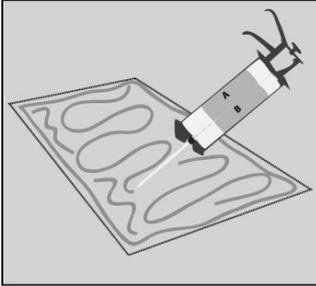
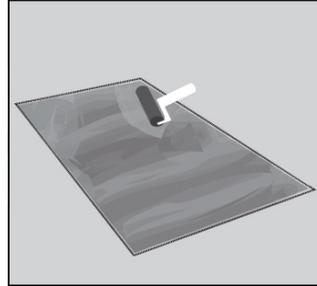

Figure 5: Dispense sealer onto the application area.
Figure 6: Spread sealer using supplied roller.
2. *Apply the sealer:* Hold the sealer gun so that the nozzle of the sealer cartridge is approximately one inch above the application area. Squeeze the handle carefully and squirt the sealer onto the area to be covered (Figure 5). Apply the sealer approximately ½ inch beyond the marker outline. Using the foam roller provided spread the sealer to the entire application area, using approximately one cartridge per 4 ft. x 2 ft. ramp. See Figure 6. The sealer should appear like a light coat of paint, leaving a shiny surface. **Note: do not allow the sealer to fully cure before applying the bonder paste.**